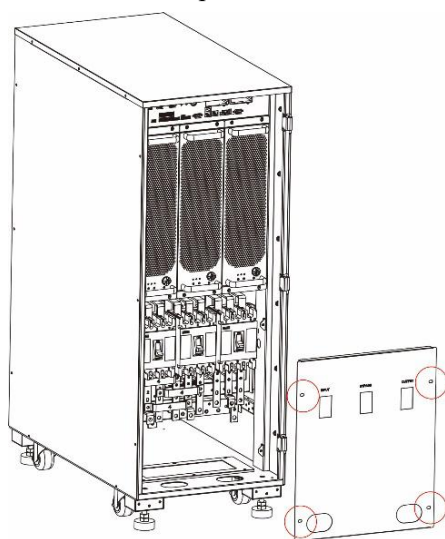

Fig. 3-7 Remove the cover of distribution unit
Step 5: open the front door and remove the cover panel of the distribution unit, as shown in Fig. 3-7.
Step 1: Open the front door and remove the cover plate of distribution unit, as shown in Fig. 3-7.